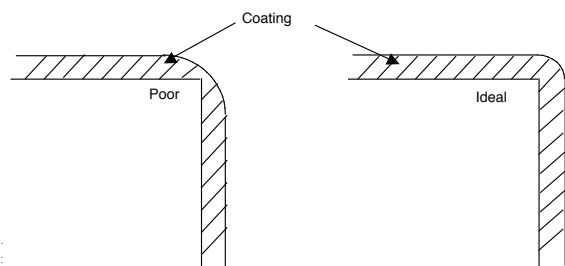

Figure 1. Schematic showing how coating thickness is reduced at a sharp edge.
2.1 Sharp edges, outside corners, crevices, and welds are often sites where coating failures and corrosion begin due to reduced coating barrier protection (see Figure 1). Reduced coating thickness on these surfaces can be a result of application of inadequate amounts of coating, but the surface tension of the wet coating or coating shrinkage during the drying/curing process can also pull the film away from edges. Sharp edges resulting from cutting, burning, and shearing are especially difficult to coat adequately. Bolt threads combine the adverse effects of sharp edges and crevices.